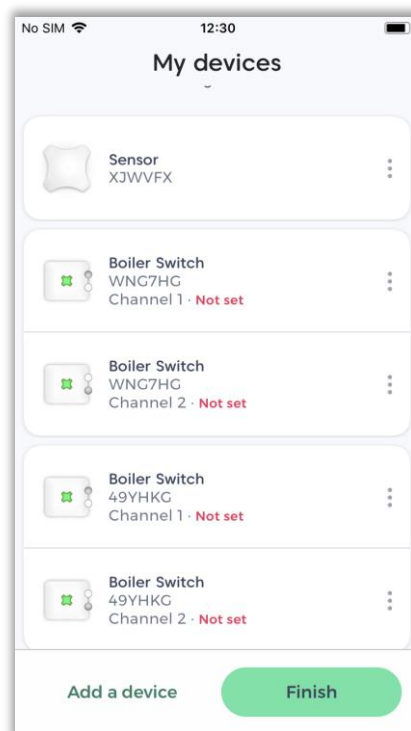

Fig 7.3 Device list before configuration
- You should now see all devices, that are not yet configured (see Fig 7.3)
- Paired devices are shown as an icon (see Fig 7.3)